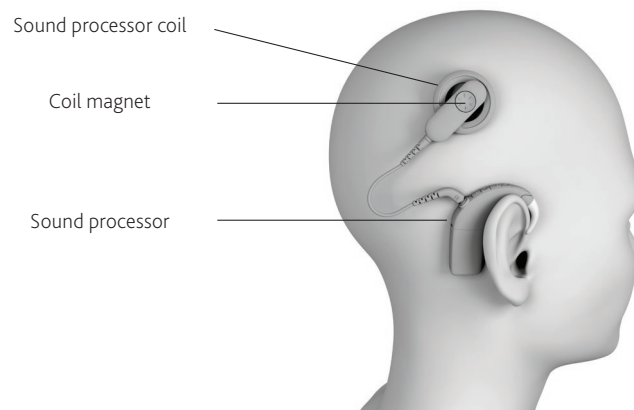

Figure 3: Location of the sound processor, sound processor coil and coil magnet
1. Prior to entering the MRI room and before removing the sound processor, mark on the patient's head an outline of the sound processor coil. See **Figure 3** below to identify the sound processor coil. Once the coil has been removed from the head, mark on the patient's head the centre position of the coil magnet. Clear away as much hair as possible. If necessary, shave the patient's head at the coil magnet location so this marking is more visible and easier to locate during the splinting process. This marking is essential to ensure that the splint is placed in the correct location.